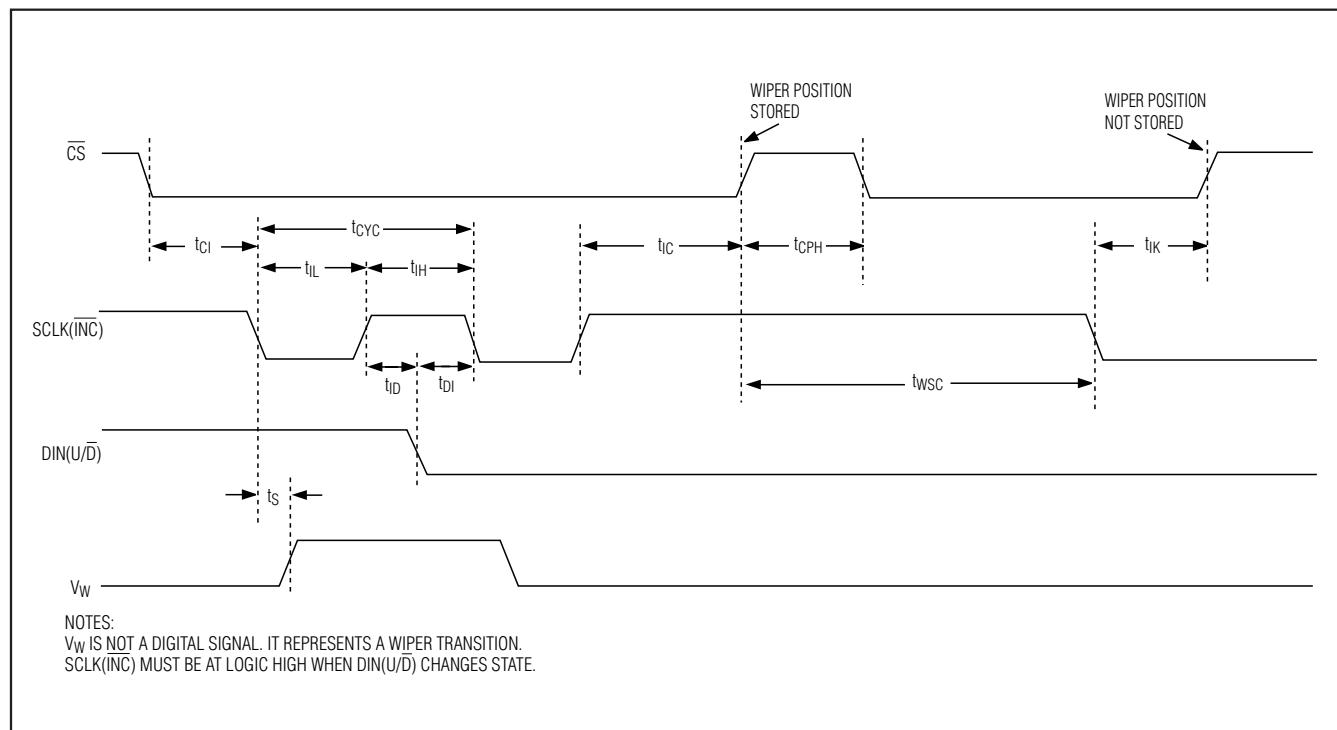

Figure 8. Up/Down Serial-Interface Timing Diagram ( $SPI/UD = 0$ )
Figure 8 illustrates an up/down serial-interface timing diagram. In digital up/down interface mode (SPI/UD = 0), the logic inputs CS, DIN(U/D), and SCLK(INC) control the wiper position and store it in nonvolatile memory (see Table 3). The chip-select (CS) input enables the serial interface when low and disables the interface when high. The position of the wiper is stored in the nonvolatile register when CS transitions from low to high while SCLK(INC) is high.